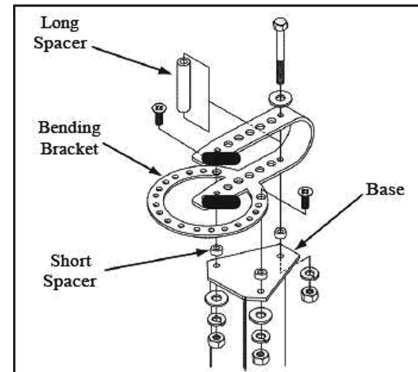

Figure 3. Attaching bending bracket to the base schematic.
2. Bolt the base/stand (19) to a stable surface
3. Place the two short spacers (6) over two of the holes on the top of the base/stand as shown in figure 3 below.
- Place the bending bracket (4) over the short spacers and secure it using the screw (5), washers (3, 7) and nut (8) according to figure 3 and the parts diagram.
- Place the long spacer (1) between the back two holes of the bending bracket and secure the entire assembly to the base/stand using the bolt (2), washers (3, 7) and nut (8) according to figure 3 and the parts diagram.
- Place the yoke arm (15) between the flanges of the bending bracket and secure it in place using the long hinge pin (9).